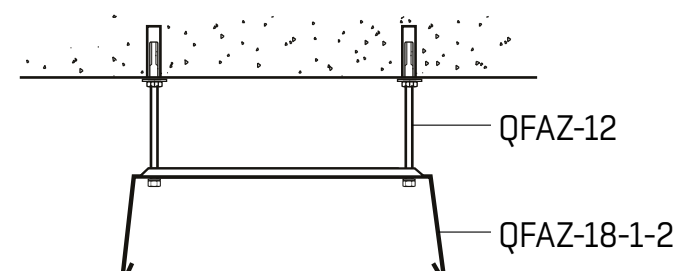

FIGURE 5
- 1) Thread the suspension rods up through the suspension bracket and down into the fastening bracket and tighten the nuts with a wrench. (See **FIGURE 5**)